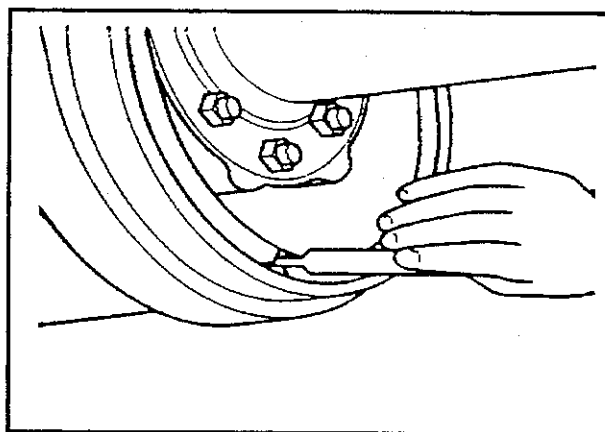

Figure 4—Insert Gauge
4. With brake not applied, place the tip of the gauge between the two lining blocks, between the top of the shoe table and drum. (See Figure 4—Insert Gauge.)